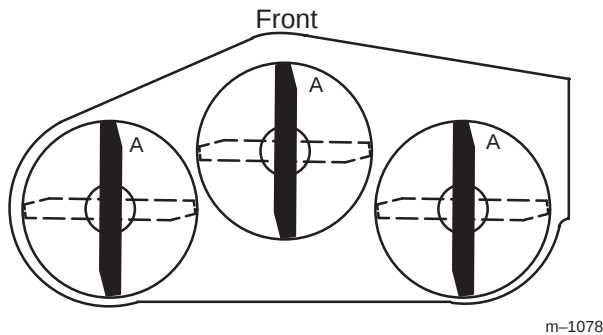
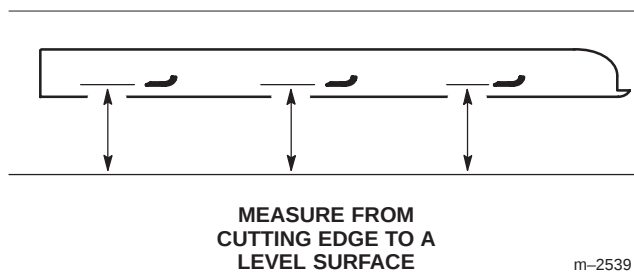

Figure 46
Figure 47
1. Rotate the blades until the ends face forward and backward (Fig. 46). Measure from a level surface to the cutting edge, position A, of the blades (Fig. 47). Note this dimension.